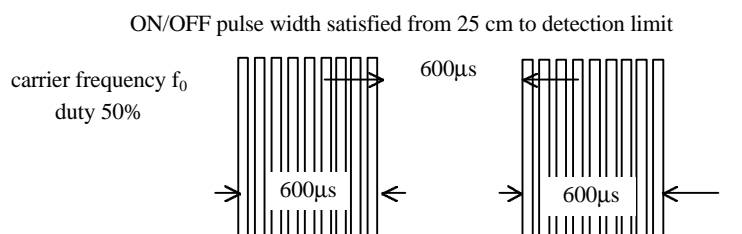

Fig 1. Burst Wave
(1) Measuring place .....Indoor without extreme reflection of light.
(2) Ambient light source...Detecting surface illumination shall be 200±50Lux under ordinary hite fluorescense lamp of no high frequency lighting.
(3) Standard transmitter ...Burst wave indicated in Fig 1. of standard transmitter